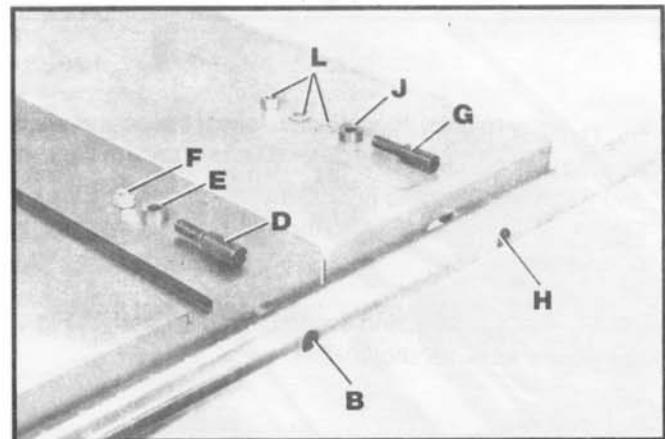

Fig. 31
2. Insert special screw (D) Fig. 31, through hole (B) in the guide rail and place spacer (E) between the guide rail and saw table. Insert screw (D) into the hole of the saw table and fasten the guide rail to the table with hex nut (F). **NOTE:** Do not completely tighten screw (D) at this time.
3. Insert special screw (G) Fig. 31, through hole (H) in guide rail and place spacer (J) between guide rail and extension wing. Fasten the guide rail to the extension wing with flat washer, lockwasher and hex nut (L). **NOTE:** Do not completely tighten screw (G) at this time. Assemble the other end of the guide rail to the remaining extension wing in the same manner.